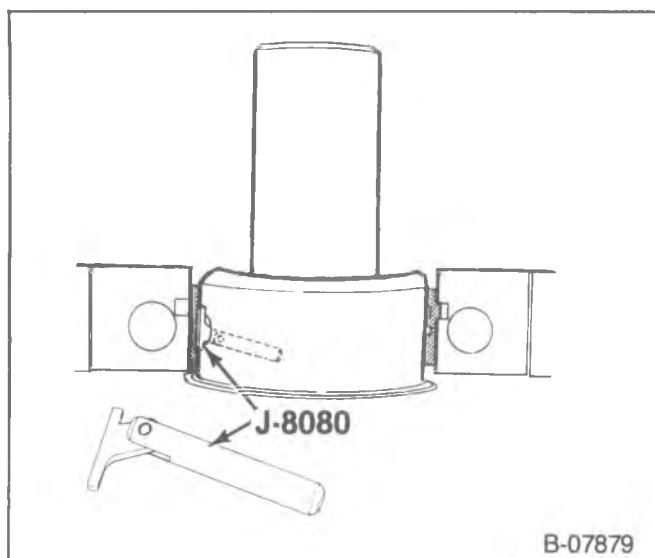

Figure 33—Removing the Main Bearing Insert
↔ Remove or Disconnect (Figure 33)
- Insert J-8080 into the crankshaft oil hole (figure 33).
↔ Install or Connect (Figures 33 and 34)
- Insert J-8080 into a crankshaft main bearing oil hole (figure 33).
Install or Connect (Figure 33)